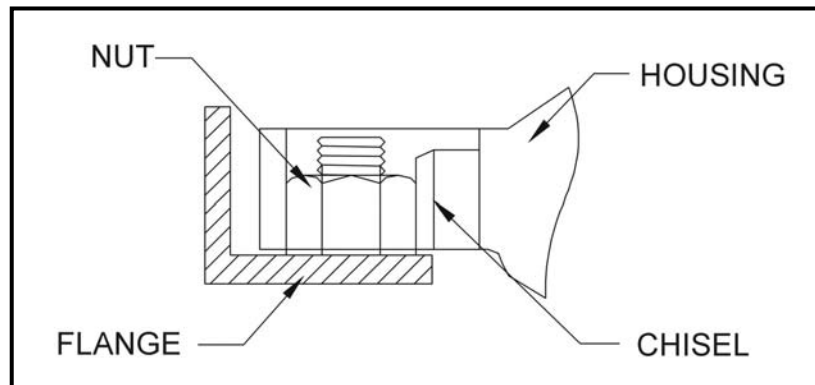

FIG.7
3. Extend the chisel slowly until it makes contact with the nut face. Check that the chisel is resting squarely on the center of a nut flat. See FIG. 7